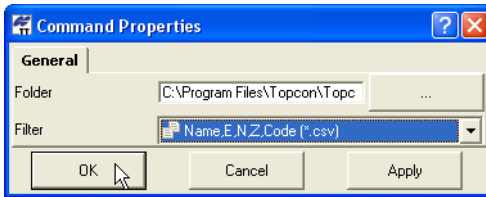

Figure 1-32. Apply Command Properties
2. On the *Command Properties* dialog box, click the **browse** button to select the default folder to import files to or export files from (Figure 1-32).
3. Click the **Filter** drop-down list to select the default import/export format (Figure 1-32).